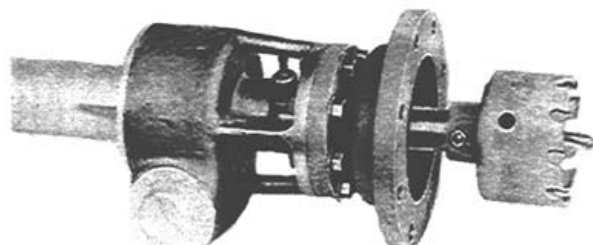

FIGURE 44
- a. When using CC-36 or C1-36 drilling machines, assemble the shell cutter and cutter hub. Insert the shank of pilot drill into the socket in the boring bar. Slide cutter hub and shell cutter over the end of boring bar. Align holes in the cutter hub, boring bar, and pilot drill and attach to boring bar with hub retaining bolt. **Fig. 44.**